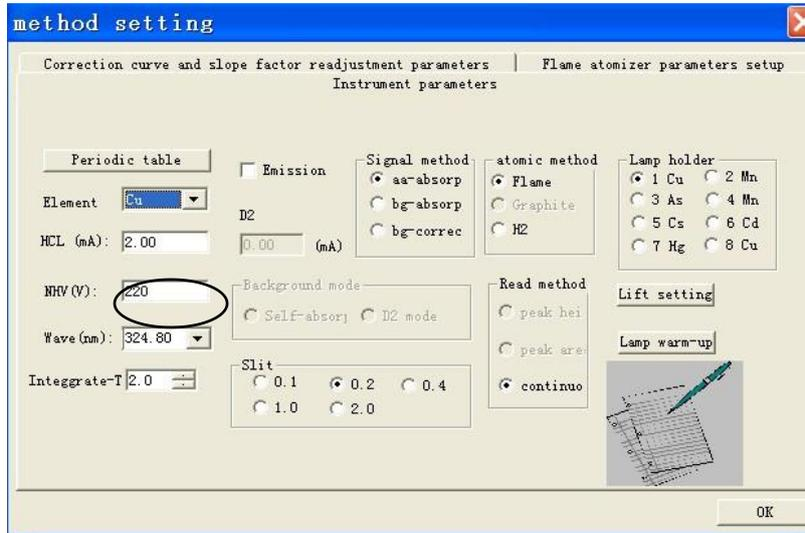

Figure 4-16
6. Negative high voltage selection: Enter the desired value into the "Negative high voltage" field. The range of negative high voltages is **0 – 700 V**, as shown in Figure 4-16.